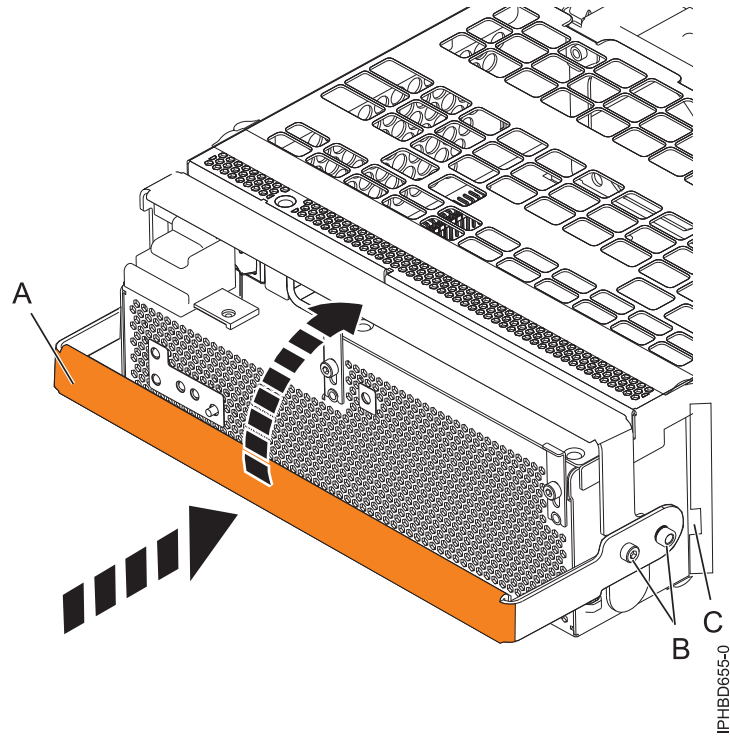

Figure 23. Replacing a power supply
6. To replace the power supply, with the locking handle **(A)** in the open position, push the power supply into the expansion unit as shown in Figure 23 on page 23.